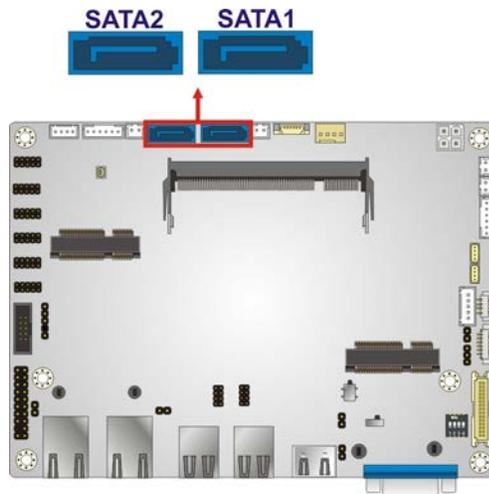

Figure 3-23: SATA 6Gb/s Drive Connector Location
- CN Location:** See Figure 3-23